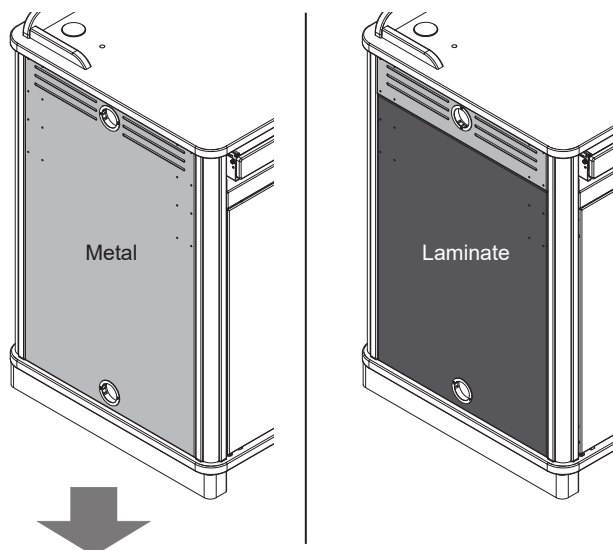

Figure 6.1
- Type of side panels your lectern has (metal or laminate) **Figure 6.1**